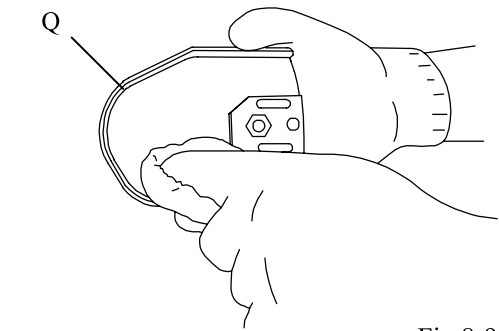

Fig.8-9
5. Wipe away any wood chips and other debris that has accumulated in the drive sprocket cover (Q). (Fig.8-9)